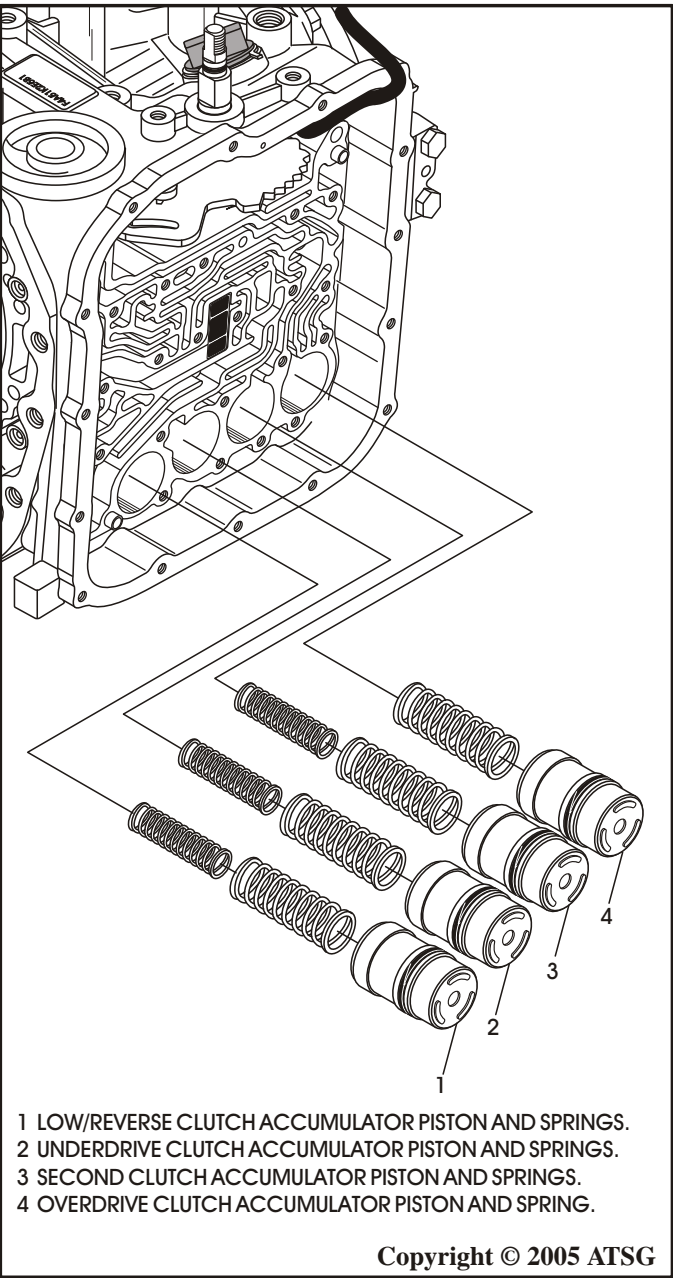

Figure 32
14. Remove each accumulator piston and springs, as shown in Figure 32.